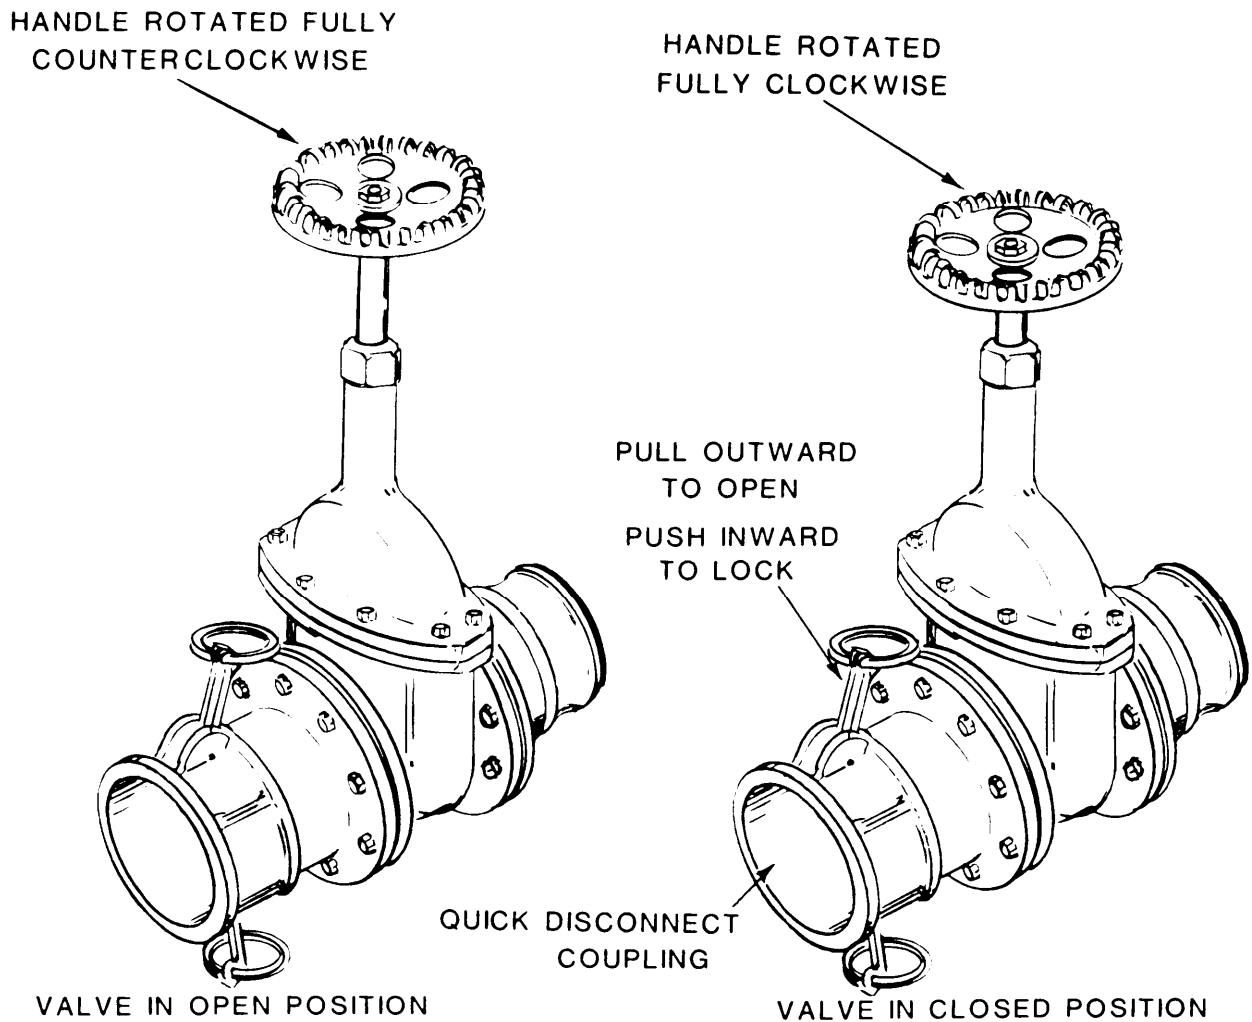

Figure 2-2. Three Inch Gate Valve
- b. Three Inch Gate Valve (See Figure 2-2). The flow of fuel into the tank through the filler/discharge assembly is controlled by a 3 inch gate valve. When the valve handle is fully rotated counterclockwise, the valve is open. Rotating it fully clockwise closes the valve. The valve is connected to the 3 inch hose using quick-disconnect couplings.